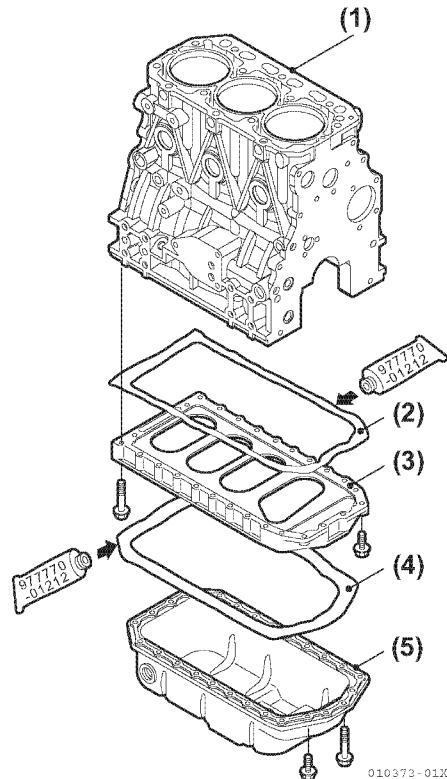

Figure 5-146
- Apply Three Bond 1207F to the three surfaces (**Figure 5-146**).